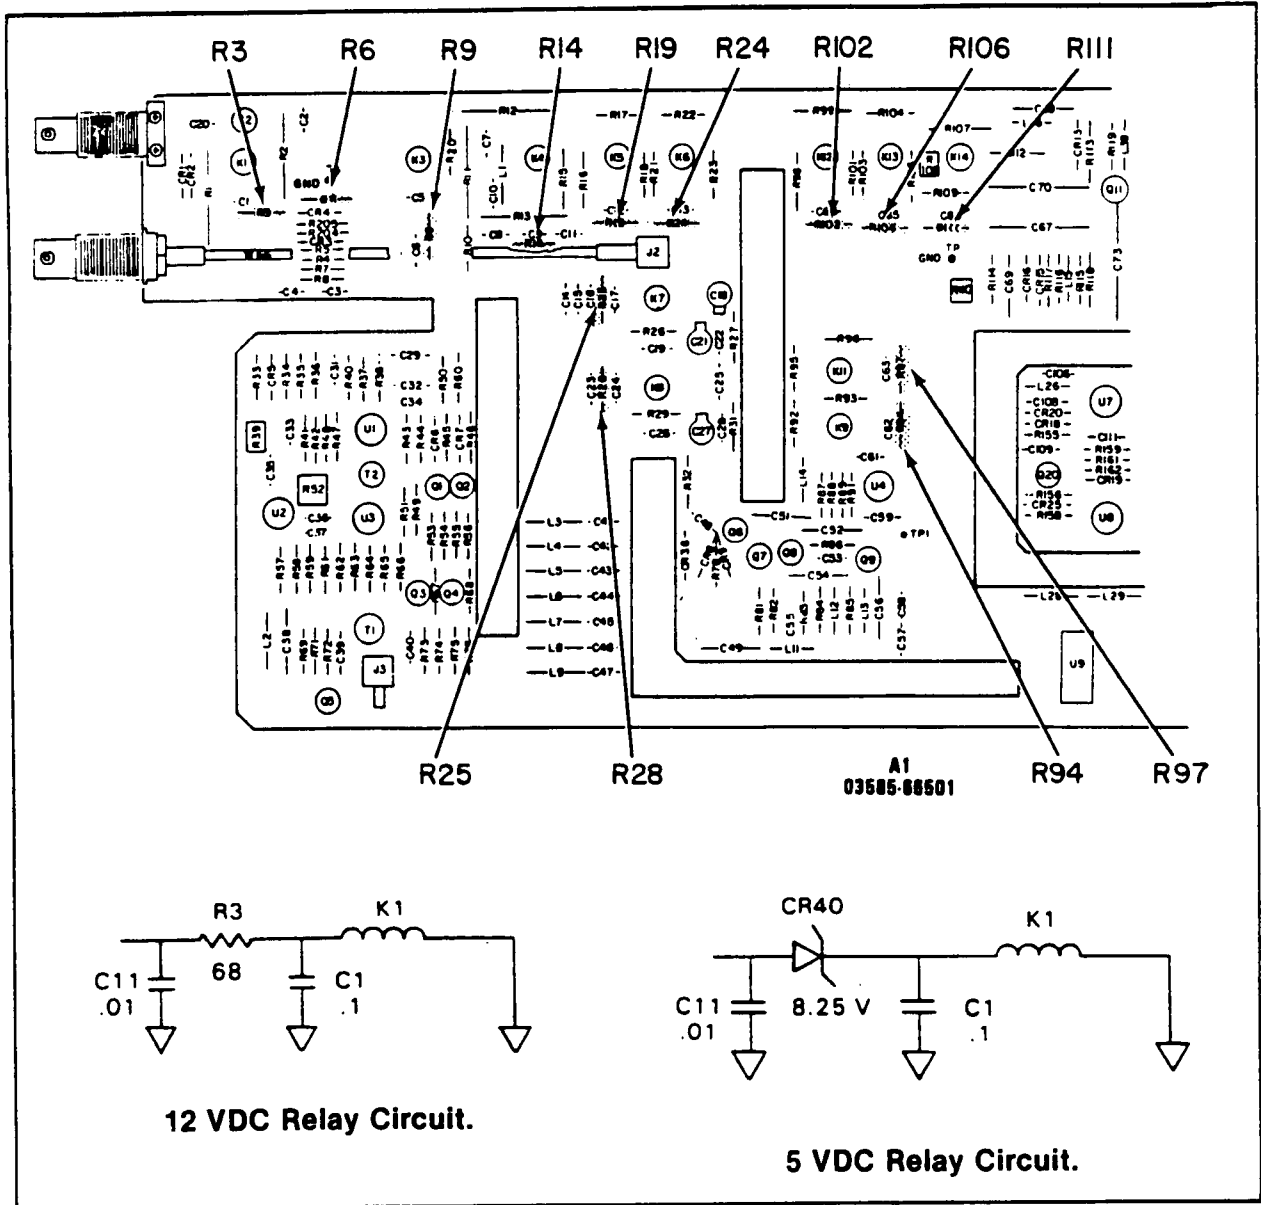
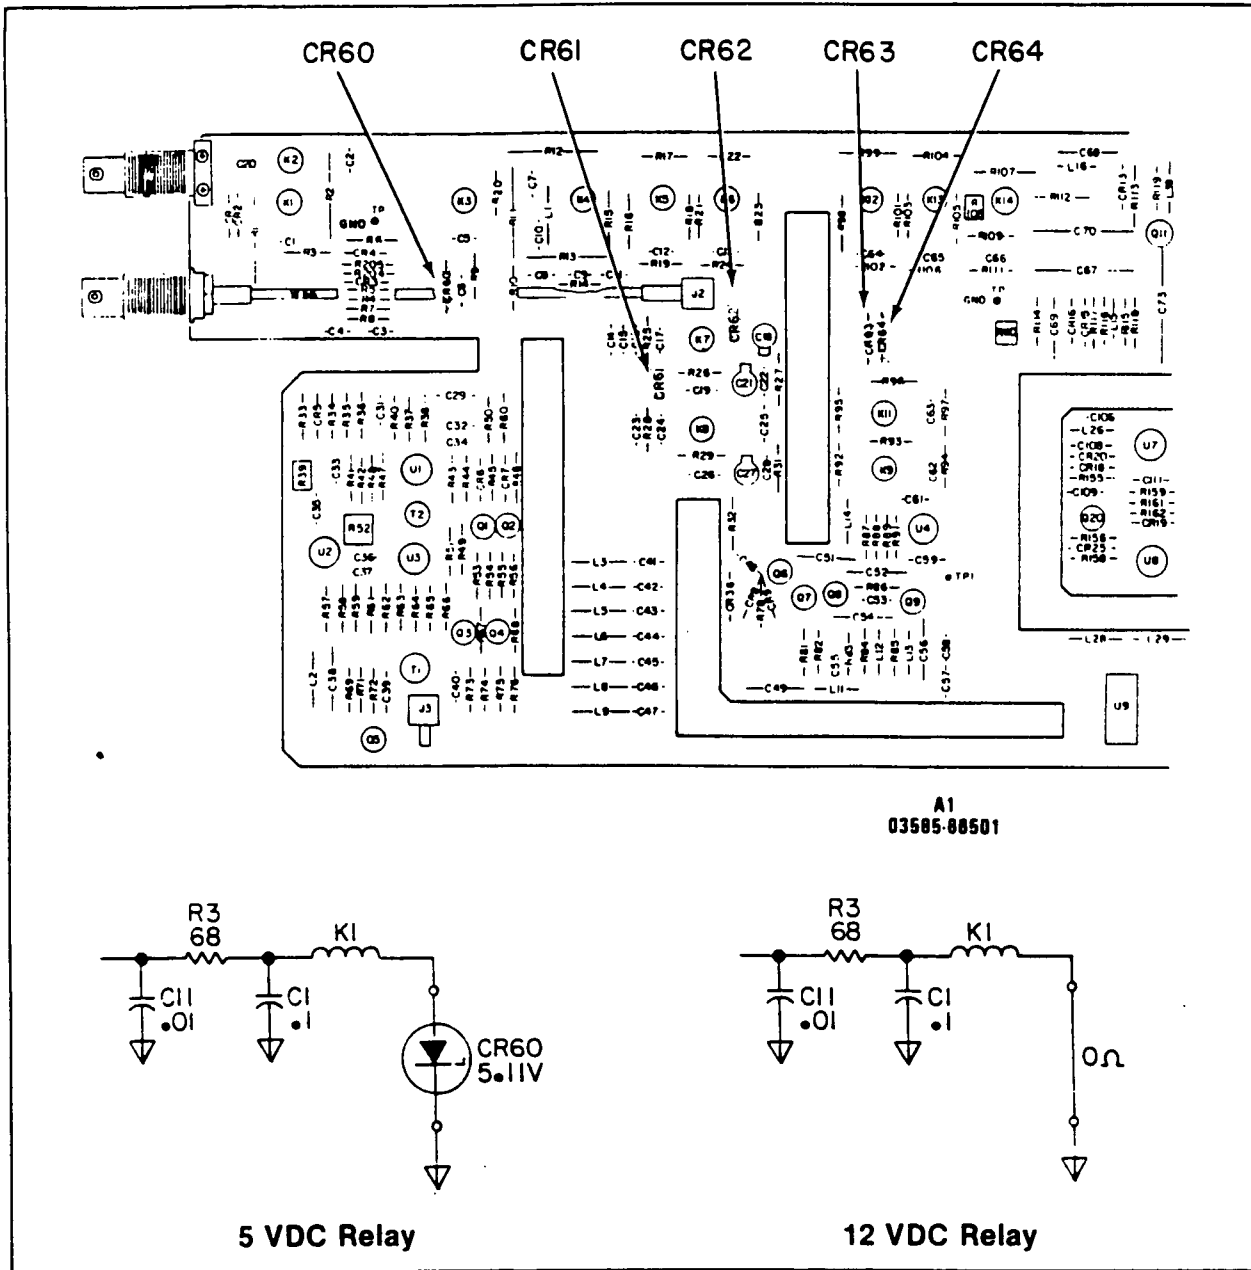
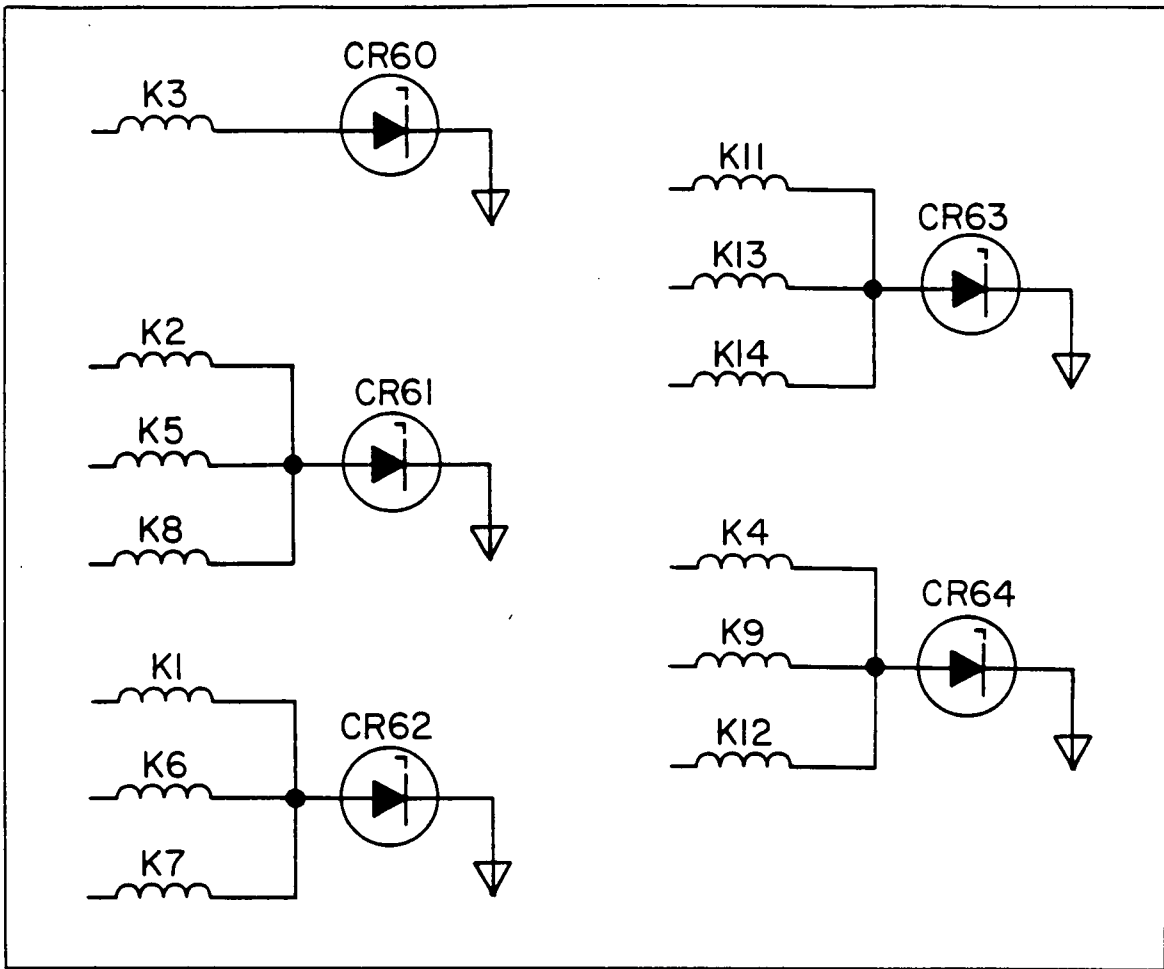

Figure 1. A1 Board Serial Numbers 1750A01610 and Earlier.
Figure 2. A1 Board Serial Numbers 1750A01611 and Later.
Figure 4. Zener Diode and Relay Arrangement After Serial Number 1750A01610.
The 3585A uses a 12 VDC relay for relays A1K1-K9, K11-K14 except when 12 VDC relays are not available from the vendor, in which case 5 VDC relays are used. In order to properly drive the 5 VDC relays a zener diode is placed in series with the relay coil. For 3585A's with serial numbers earlier than 1750A01611, and which use the 5 VDC relay an 8.25 volt zener diode is placed on the voltage side of the relay coil as shown in figure 1. For 3585A's with serial numbers later than 1750A01611, and which use the 5 VDC relays a 5.11 volt zener diode is placed on the ground side of the relay coil as shown in figure 2.
1. If the A1 board looks like figure 1, and the resistor positions AIR3, 6, 9, 14, 19, 24, 28, 94, 97, 102, 106, and 111 are loaded with 68 ohm resistors, refer to SECTION 1: 12 VDC RELAYS.
2. If the A1 board looks like figure 1, and the resistor positions AIR3, 6, 9, 14, 19, 24, 25, 28, 94, 97, 102, 106, and 111 are loaded with 8.25 volt zener diodes, refer to SECTION 2: 5 VDC RELAYS.
3. If the A1 Board looks like figure 2, and the diode positions A1CR60 through A1CR64 are loaded with 5.11 volt zener diodes, refer to SECTION 3: 5 VDC RELAYS.
4. If the A1 board looks like figure 2, and the diode positions A1CR60 through A1CR64 are loaded with 0 ohm resistors, refer to SECTION 4: 12 VDC RELAYS.
Before replacing a relay, verify that it is a 12 VDC relay by checking for the 68 ohm relay drive resistors as in figure 1.
1. To properly drive the 5 VDC relays, 5.1 volt zener diodes, A1CR60 through A1CR64, were added to the circuitry. The five zener diodes are arranged with the 13 relays as shown in figure 4. The 5 volt zener diodes are part number 1902-0579. See figure 2 to clarify this change.
Before replacing a relay, verify that it is a 5 VDC relay by checking for the zener diodes as in figure 2.
Before replacing a relay verify that it is a 12 VDC relay by checking for the 0 ohm resistors as shown in figure 2.